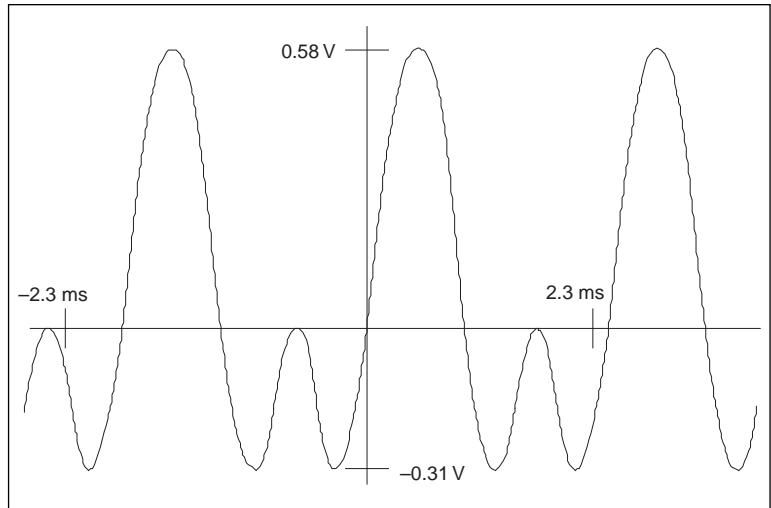

Figure 1. Polarity signal waveform.
**POLARITY** is a troubleshooting signal consisting of an asymmetrical waveform (Figure 1). This signal may be used to detect if the plus and minus connectors of an audio conductor have been reversed.